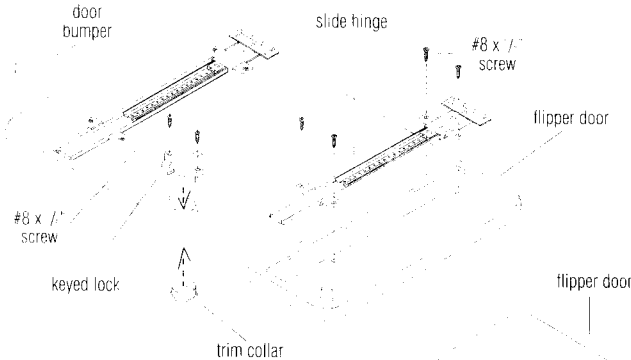

Figure 6
17. Lay flipper doors, with the back side up, on a soft protective surface. Attach two slide hinges to each flipper door with four #8 x 1/2" screws per hinge. Peel adhesive backing from door bumpers and attach two bumpers per flipper door to back of flipper door at corners shown (Figure 6).
18. Orient keyed lock as shown and insert into socket from backside of flipper door. Holding the flipper door up and the keyed lock in place, press the trim collar into the socket. Fasten the keyed lock to the flipper door back with two #8 x 1/2" screws. Repeat this procedure for second flipper door (Figure 6).